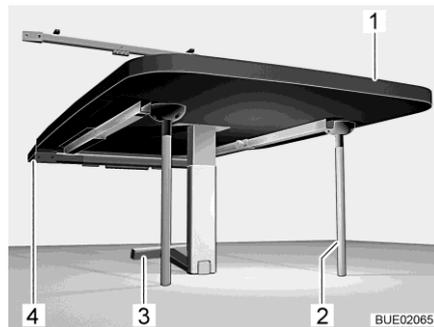

Fig. 136 Suspension table as bed foundation
- Lift the front of the table top (Fig. 136,1).
- Fold the lower part of the fold-out leg (Fig. 136,3) by 90°.
- Insert two additional support legs (Fig. 136,2) on the table top's bottom side.
- Insert and lock the table in the lower retainer (Fig. 136,4).